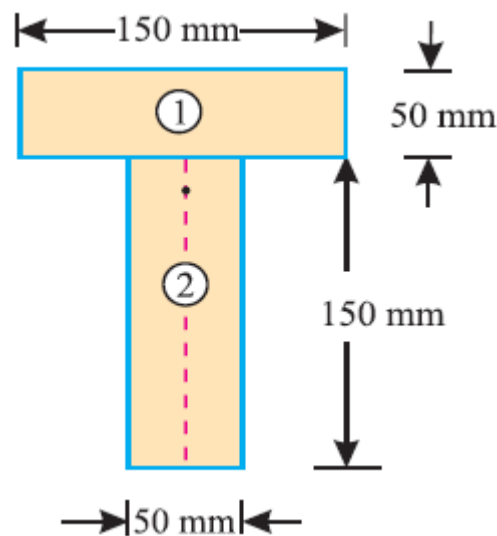

Fig.20
4. Find the moment of inertia of a T-section with flange as $150 \text{ mm} \times 50 \text{ mm}$ and web as $150 \text{ mm} \times 50 \text{ mm}$ about X-X and Y-Y axes through the centre of gravity of the section as shown in fig..20 [L1] [12M]